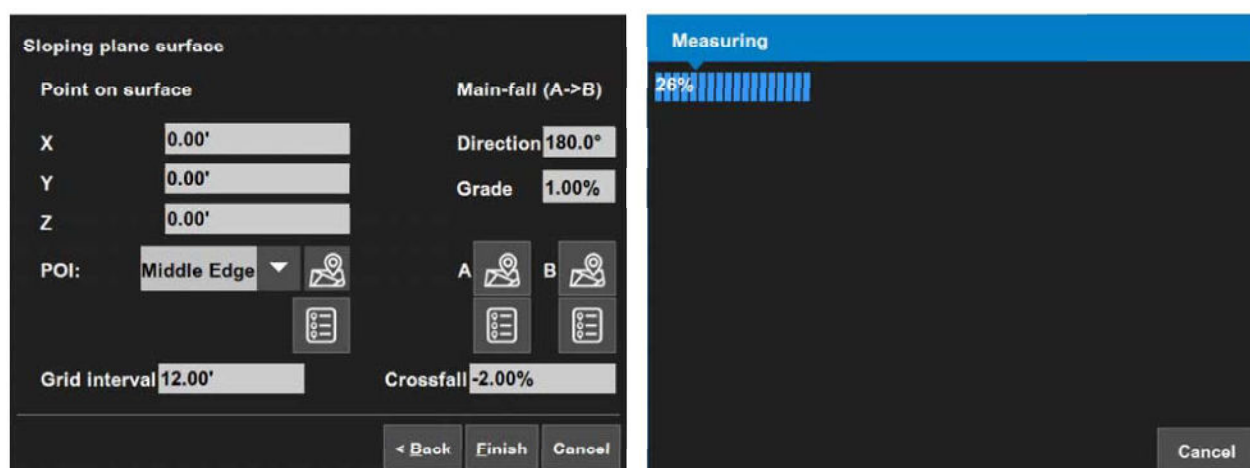

Figure 2-41: Measure Point A
1. Select the **Measure Point** button for **A**. 3D-MC will measure a point (Figure 2-41).